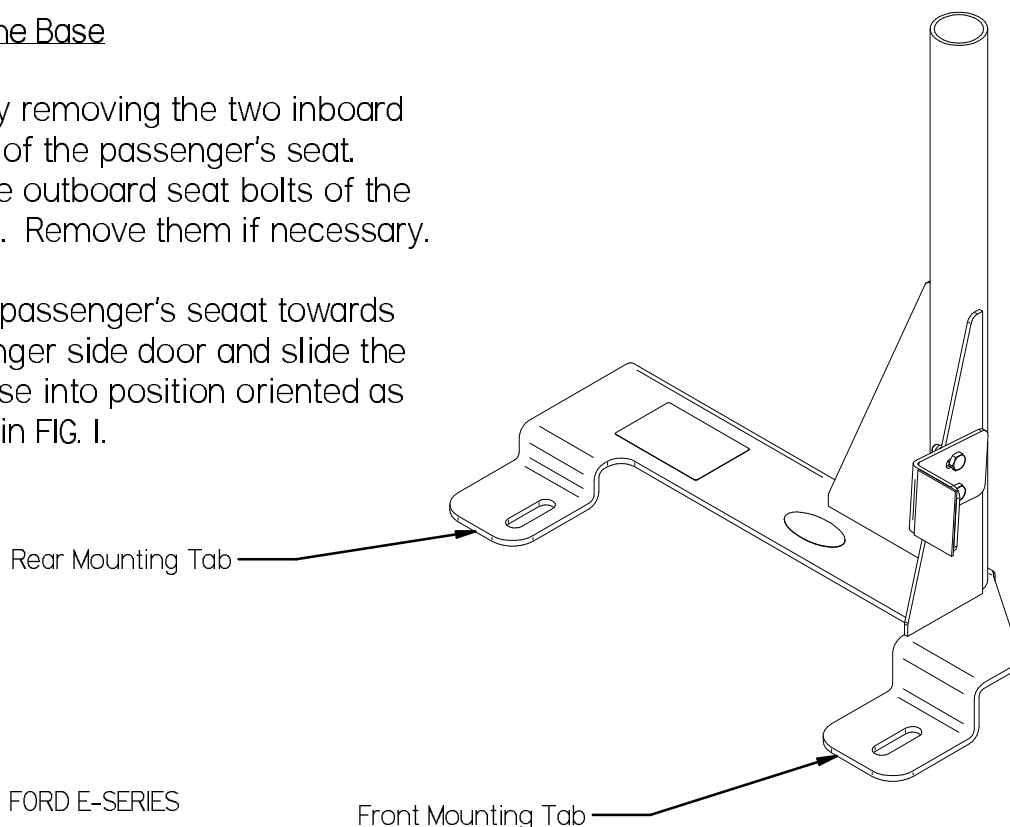

FIG. 1
2. Tilt the passenger's seat towards the passenger side door and slide the vehicle base into position oriented as illustrated in FIG. 1.